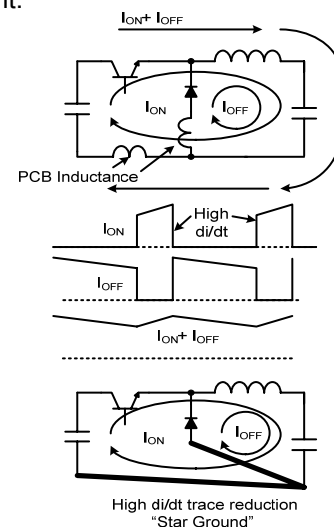

Figure 1. Step Down Converter Layout
4. Ground. The most quiet ground or return potential available is the output capacitor return. The inductor current flows through the output capacitor during both the on time and off time, hence it never sees a high di/dt. The only di/dt seen by the output capacitor is the inductor ripple current which is much less than the di/dt of an edge to a square wave current pulse. This is the best place to make a solid connection to the IC ground and input capacitor. This node is used as the star ground shown in Figure 1. This method of grounding helps to reduce high di/dt traces, and the detrimental effect associated with them, in a step-down converter. The inductance of these traces should always be minimized by using wide traces, ground planes, and proper component placement.